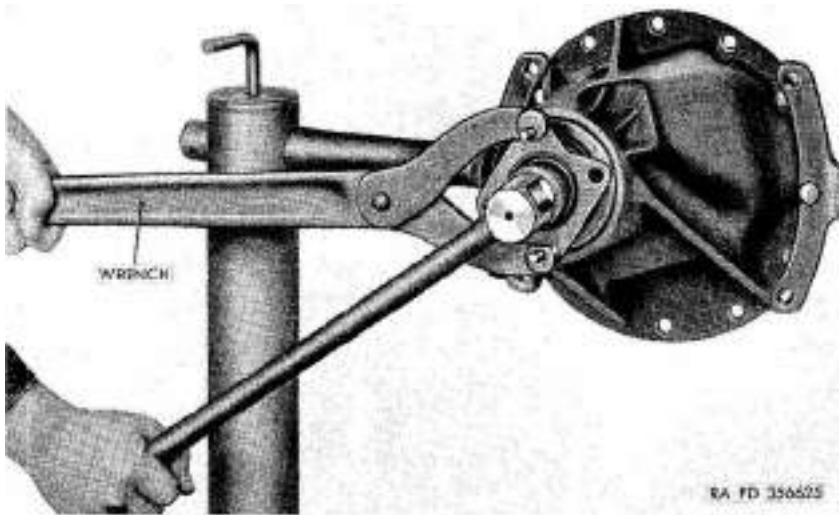

Figure 75. Holding companion flange with wrench 41-W-3277-40.
- (1) Place differential with carrier assembly in a suitable stand to facilitate disassembly.
- (2) Remove $1/8 \times 1 \frac{5}{8}$ cotter pin (A) from companion flange nut (B).
- (3) Hold companion flange (C) with wrench 41-W-3277-40 (fig. 75) and loosen nut.